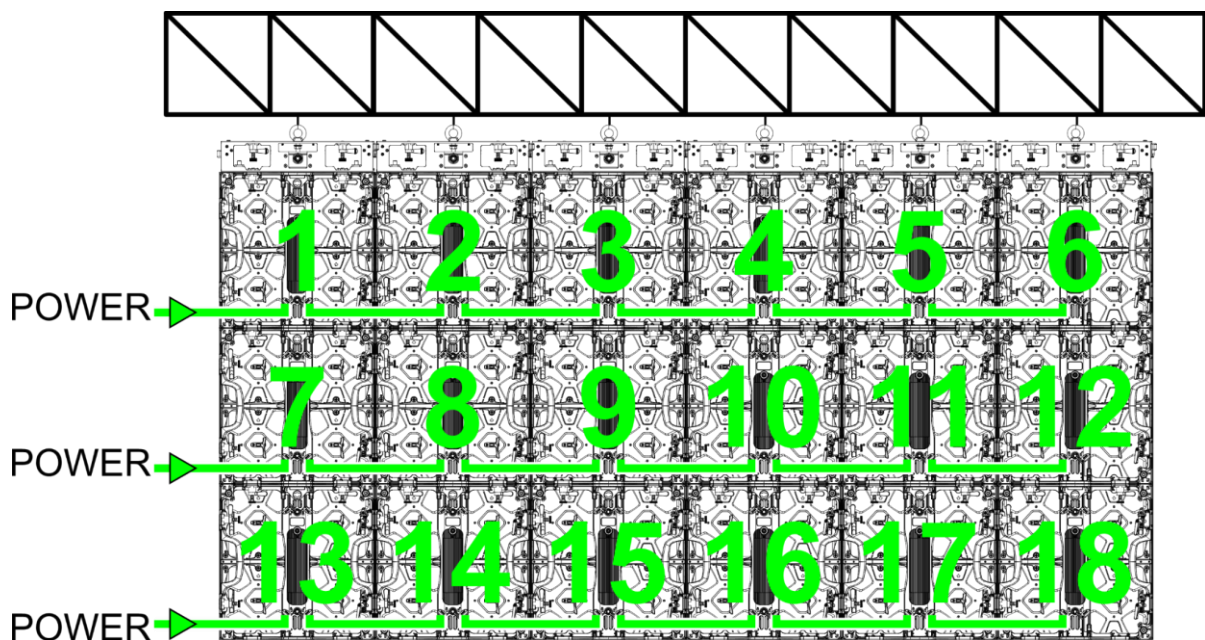

Fig. 62
- 02) Connect the **Power Out (12)** of the first device to the **Power In (14)** of the next device with the supplied power cable.
- 03) Repeat step 2 to connect the rest of the devices in the setup, as shown in Fig. 62.